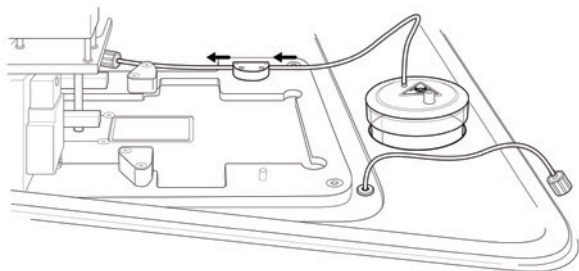

Fig. 15. Press tubing into the pinch valve.
- Press tubing into the pinch valve until you feel it click into place (Figure 15).